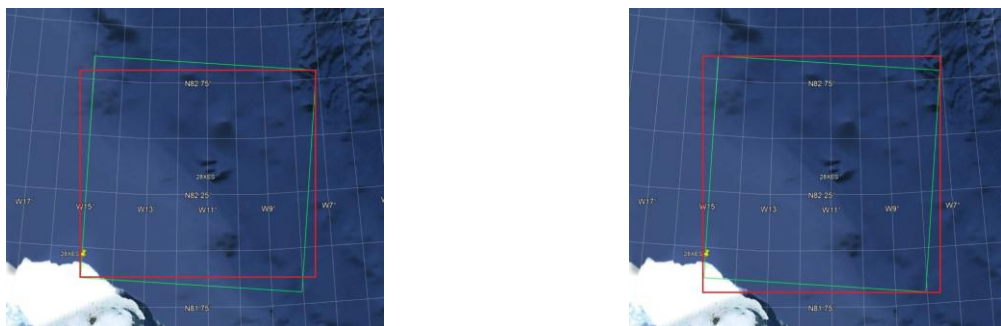

Figure 1 – Bounding box (in red) computed to search in snow climatology map. MGRS tile 28XES (in green)
- ❖ Updated the importing procedure of Copernicus DEM to be in line with the operational Production Service (PS);
- ❖ Improvement of bounding box for snow/ice detection at very high latitudes as shown in Figure 1.